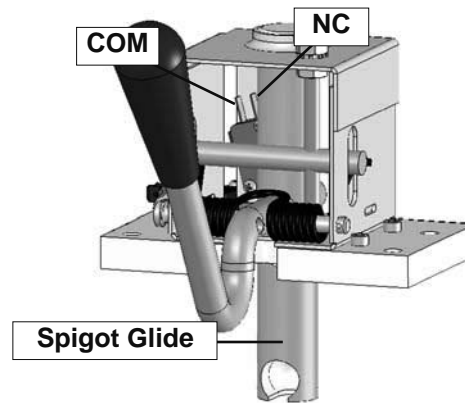

Figure 6-7 Spigot Cam Assembly
2. The clicking sound should be within the first 1/2" of the spigot glide movement (Refer to Figure 6-7). If the switch does not close, an adjustment may be necessary.